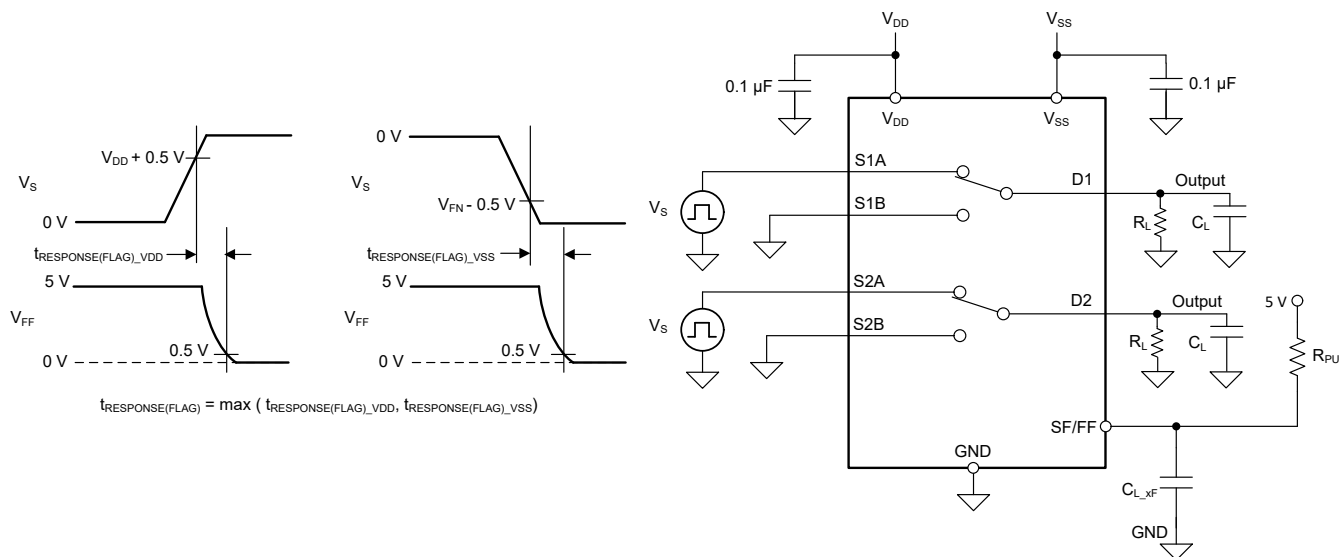

图 7-11. Fault Flag Response Time Measurement Setup
Fault flag response time ($t_{\text{RESPONSE(FLAG)}}$) measures the delay between the source voltage exceeding the fault supply voltage (V_{DD} or V_{SS}) by 0.5 V and the general fault flag (FF) pin to go below 10% of its original value. 图 7-11 shows the setup used to measure $t_{\text{RESPONSE(FLAG)}}$.